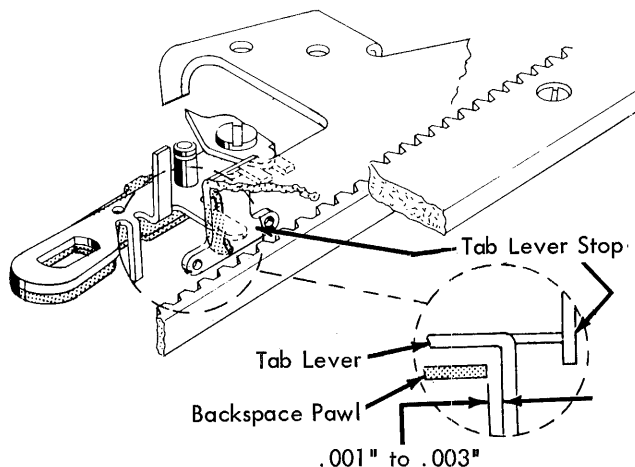

FIGURE 199. Tab Lever Stop Adjustment
2. Tab Lever Stop - The rest position of the tab lever is controlled by a lug on the escapement bracket called the tab lever stop (Fig. 199). The stop should be formed front or rear so that a clearance of .001" to .003" exists between the vertical lug on the tab lever and the backspace pawl when the backspace pawl is bottomed in its rack.